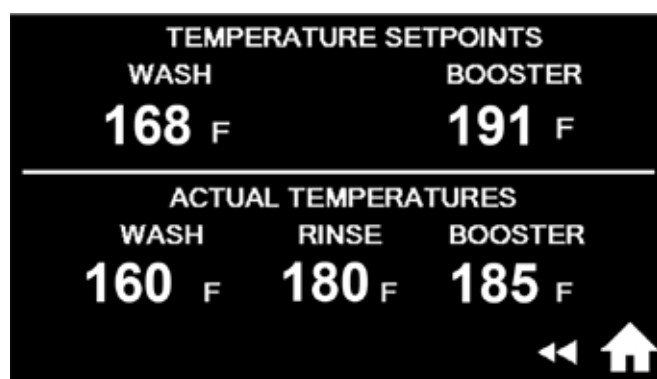

Fig. 92a - Temperature Set points menu
3. Actual Temperatures appear below and indicate the current temperatures during a wash and rinse cycle. These are not adjustable, (Fig. 92a).